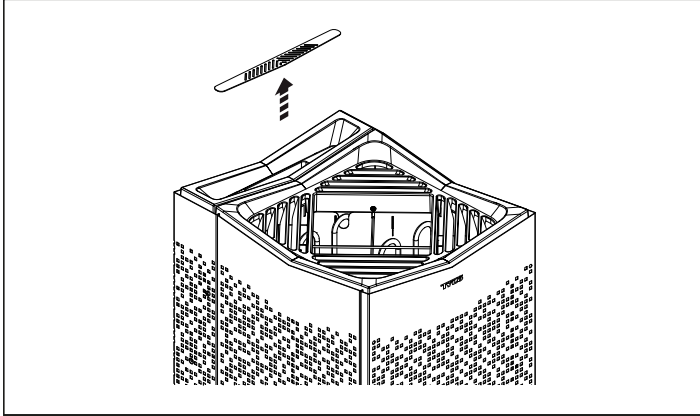

Figure 8: Cleaning the fragrance holder/air humidifier and herb bowl
1. Remove the herb strainer from the herb bowl (figure 8).